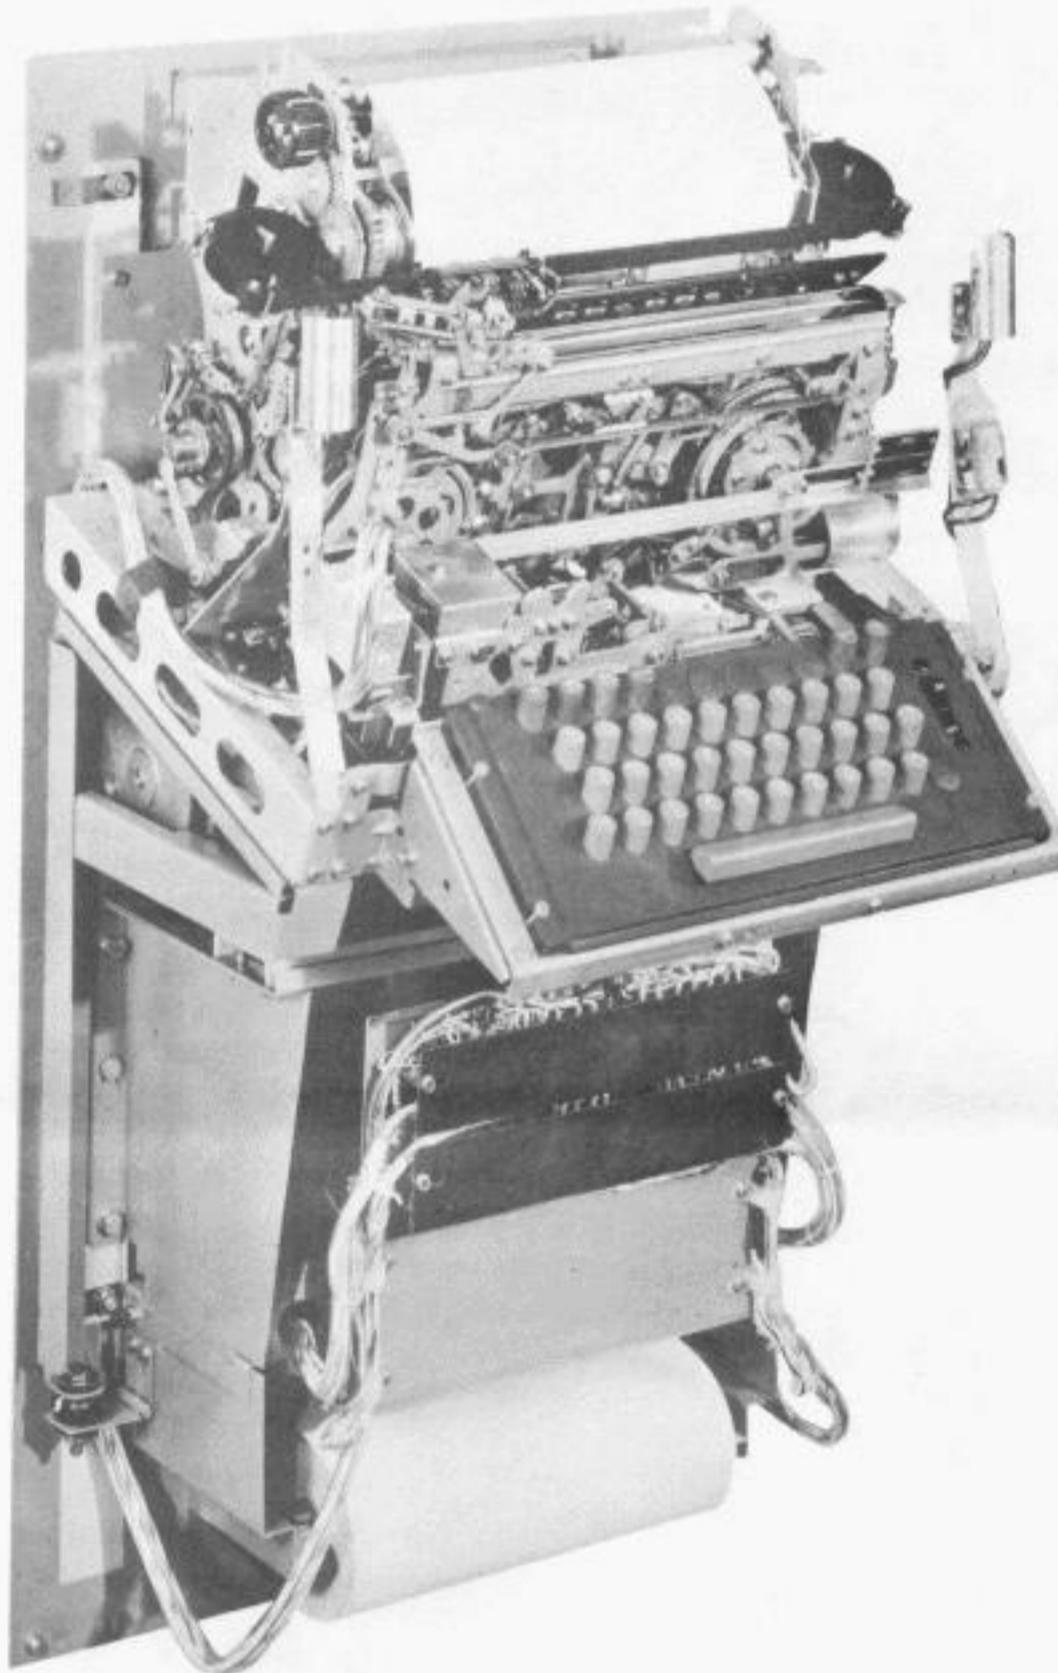

Figure 7 - Wall Mounted Printer Set (Cover Removed)
WALL MOUNTED SETS (Figure 7)
2.52 Place the motor unit on the bottom of the base unit in the proper location. See Figure 7. Place timing belt over the pinion.
2.58 Route the keyboard connecting cable from the electrical service unit up along the left side of the mounting frame. Route the cable behind all spring clips supplied with the mounting frame for this purpose. Clamp the keyboard cable to the keyboard with the spring clip supplied on the keyboard. See Figures 7 and 10. Route the typing unit connector up along the right side of the mounting frame and fasten with the spring clips supplied with the frame.